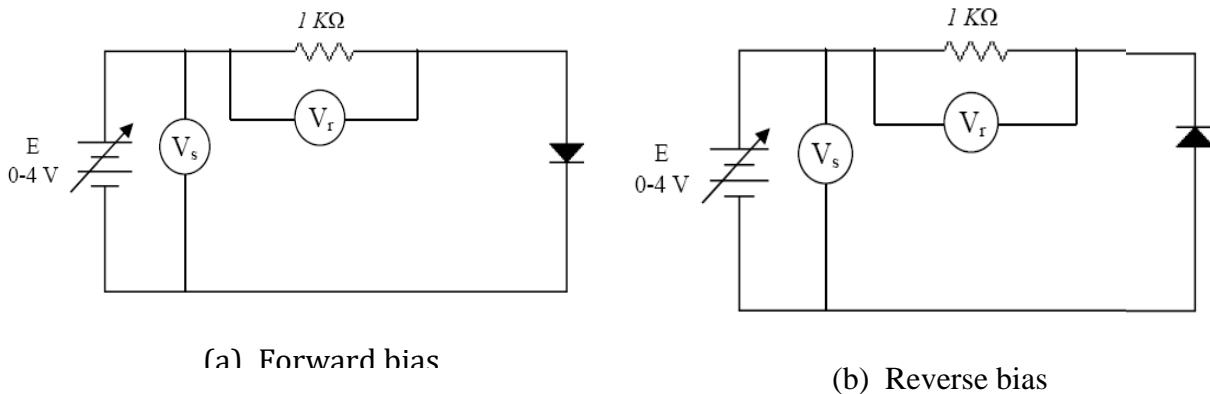

Fig. 2 Forward and reverse bias of diode
1. Connect the circuit as shown in Figure 2 (a) using silicon diode.
3. Connect the circuit shown in Figure 2 (b) using Si diode.